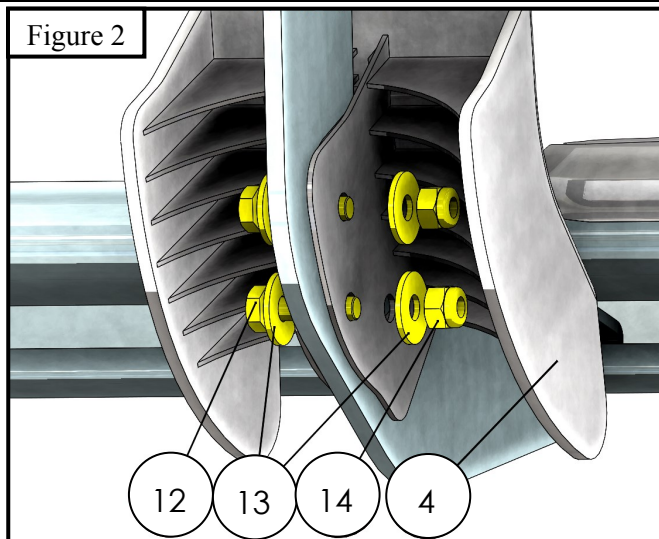

Figure 2
4. Loosely preinstall the Bracket Covers (4) to the Mounting Brackets using the included M6 Hardware. See **Figure 2**.